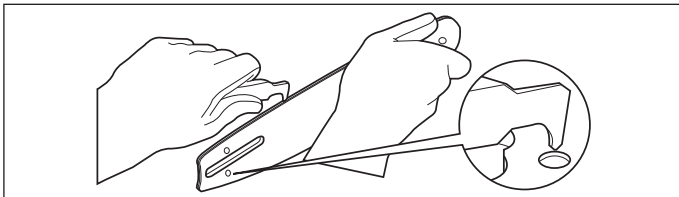

Fig. 22b
- 4). Clear residue from the rails on the guide bar (D7) using a screwdriver, putty knife, wire brush or other similar tool. This will keep the oil passages open to provide proper lubrication to the guide bar (D7) and saw chain (D6). (See Fig. 22b)